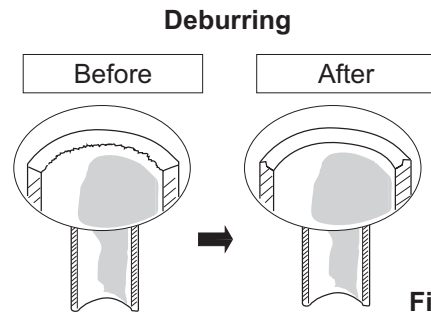

Fig. 1- 19
- (1) Cut the copper tube to the required length with a tube cutter. It is recommended to cut approx. 30 – 50 cm longer than the tubing length you estimate.
- (2) Remove burrs at each end of the copper tubing with a tube reamer or a similar tool. This process is important and should be done carefully to make a good flare. Be sure to keep any contaminants (moisture, dirt, metal filings, etc.) from entering the tubing. (Figs. 1- 19 and 1- 20)